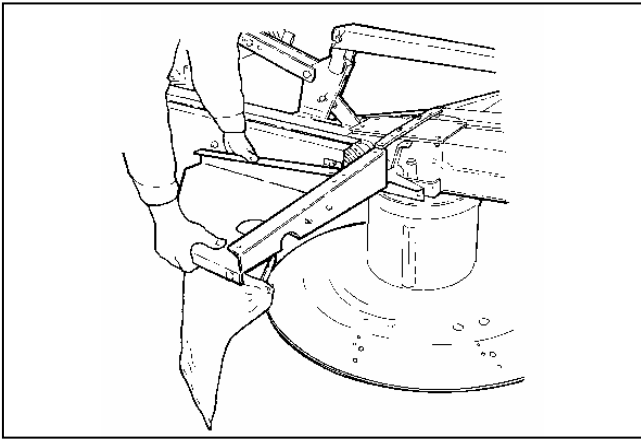

Fig. 27
- FIG. 27**      Left guard with hole for the PTO is mounted.